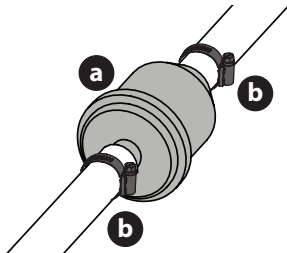

Figure 43
5. To remove the in-line fuel filter clamps (b), slide the clamps (b) away from the in-line fuel filter (a). Twist and pull the fuel lines off of the in-line fuel filter (a) (Figure 43).